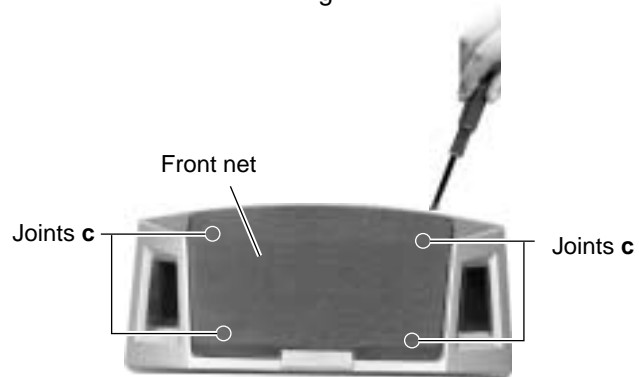

Fig.5
■ Removing the front net (See Fig.5, 6)
Note: When it is hard to remove the front net, insert a minus driver, etc. in the place between the front net and the front cover as shown in Fig.5 before removing the front cover. Exercise care not to damage the main body and the front cover when inserting the minus driver. For this purpose, insert the minus driver together with cloth and the like.